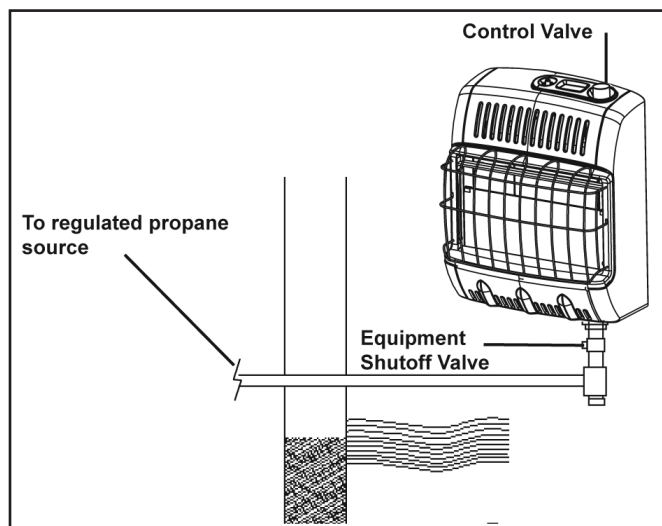

FIGURE 14
3. Push in gas control knob and slightly turn clockwise  to the OFF position (see figure 14).